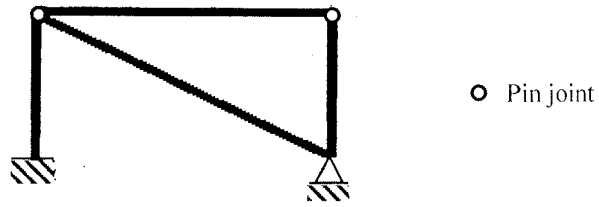

Figure Q3a
- (i) Find the degree of statical indeterminacy of the frame shown in Figure Q3a. [5 Marks]